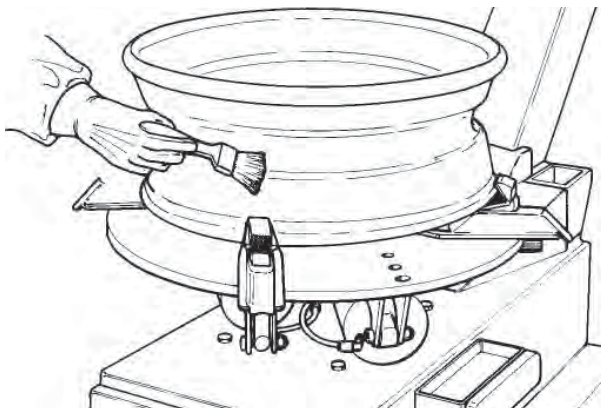

Fig. 4.2-1
A. Clean entire rim surface (Fig. 4.2-1).